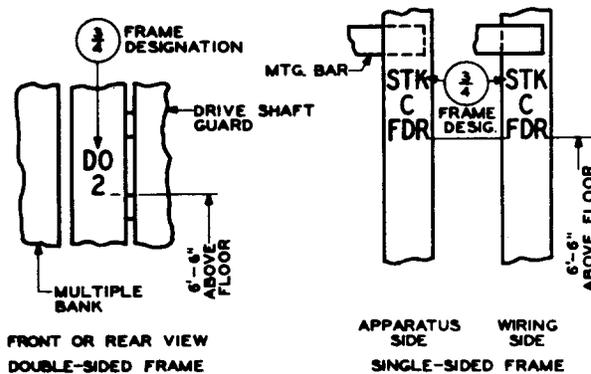

Fig. 25 - Frame Designations on Panel System Frame Uprights
2.37 *On single-sided frames*, the frame designations shall be stamped on the upright to the right regardless of the number of bays, as shown in Fig. 25. On the wiring side, when the upright to the right is covered by cabling, the left upright shall be stamped with the frame designations. Where equipment unit common can covers interfere, the frame designations shall be similarly stamped on the center of the can cover.
2.38 *On double-side frames*, the frame designations shall be stamped on the upright to the right of the selector bay, as shown in Fig. 25, unless otherwise specified.